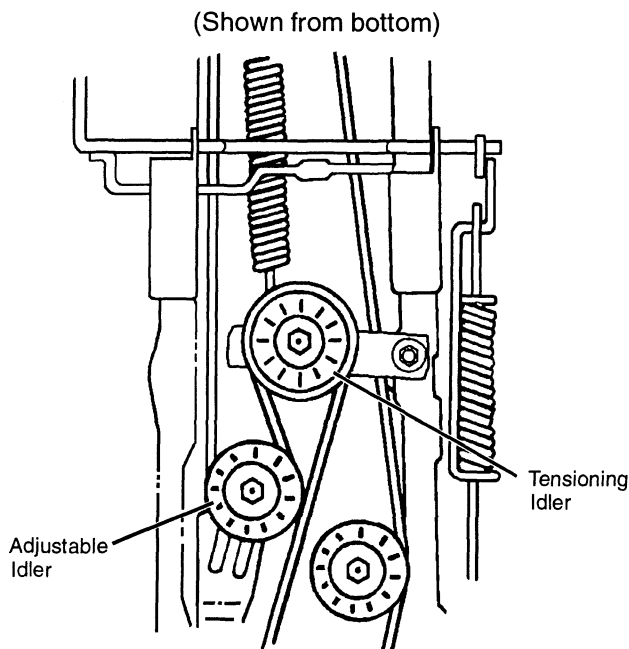

FIG. 40
- Carefully pull larger tensioning idler rearward until belt can be removed from adjustable idler, then slowly release tensioning idler. (See Fig. 40)